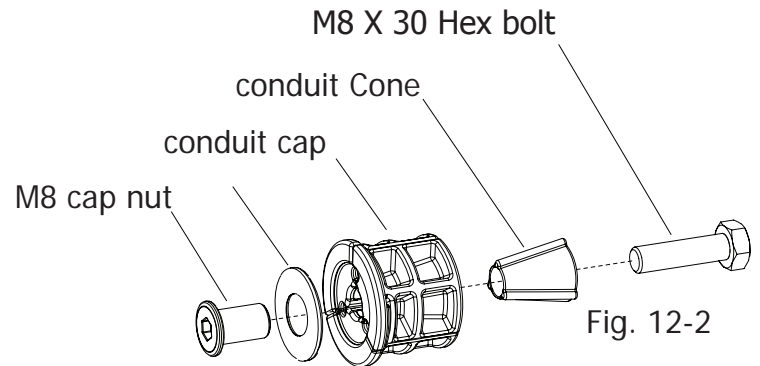

Fig. 12-2
Step 12-3: Insert the bolt and conduit cone into the 3 conduit caps, as shown in Fig. 12-2.